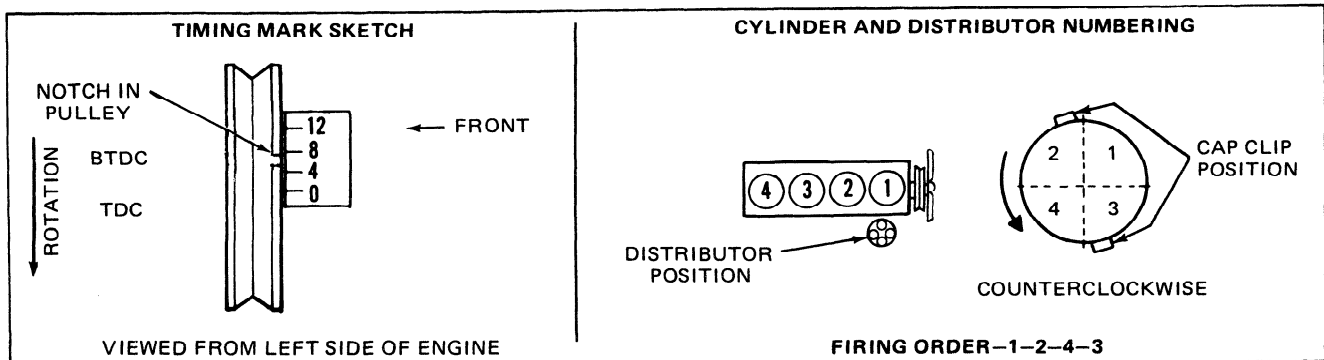

FIG. 10 Engine Timing and Cylinder Firing Order
The timing marks and their locations are illustrated in Figure 10.
1. Insert each wire in the proper socket of the distributor cap (Figure 10). Be sure the wires are forced all the way down into their sockets.